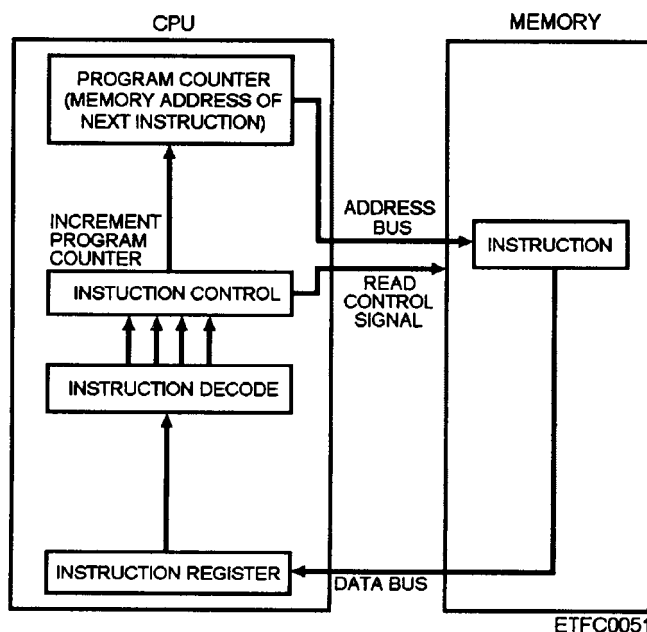

Figure 5-9.—General sequence of an interrupt response.
**INTERRUPT HANDLING PROCESS.—** CPUs follow a specific sequence of events when processing an interrupt. Remember interrupt processing has priority over normal program execution. We discuss the general interrupt handling process in order of its sequence. Figure 5-9 illustrates the general sequence